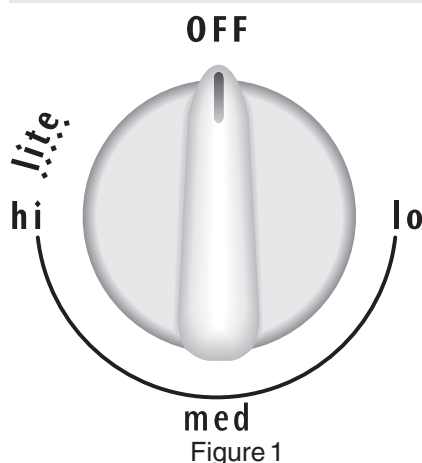

Figure 1
3. Release the knob and rotate to the LITE position (see figure 1). Note: All four electronic surface ignitors will spark at the same time. However, only the burner you are turning on will ignite.